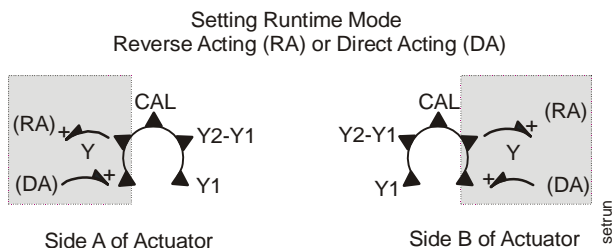

Figure 12: Mode Selector (highlighted)
The M9210-HGx-3 Series Proportional Electric Spring Return Actuators are factory set for Direct Acting (DA) operation. In DA mode, applying an increasing input signal to the control input drives the actuator away from the spring return position. Reverse Acting (RA) operation is also available. In RA mode, applying an increasing input signal to the control input drives the actuator toward the spring return position. Figure 11 and Figure 12 indicate how the drive direction for the actuator depends on the spring return direction and the position of the mode selection switch.